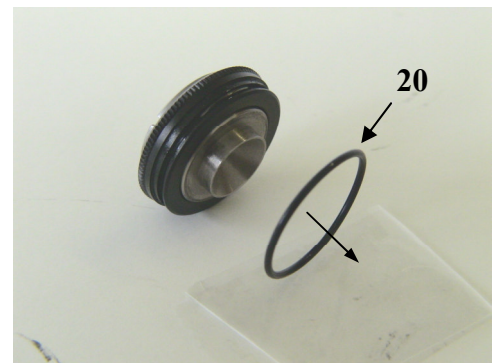

Fig. 12
- Lift off the O-ring **(20)** and take it out Fig. 12.